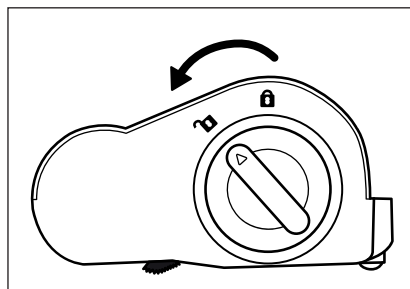

Fig. 26
① Note
- 2) Unlock the rotary brush **21** by turning the rotary brush release **19** towards the symbol  (open) (see Fig. 26).